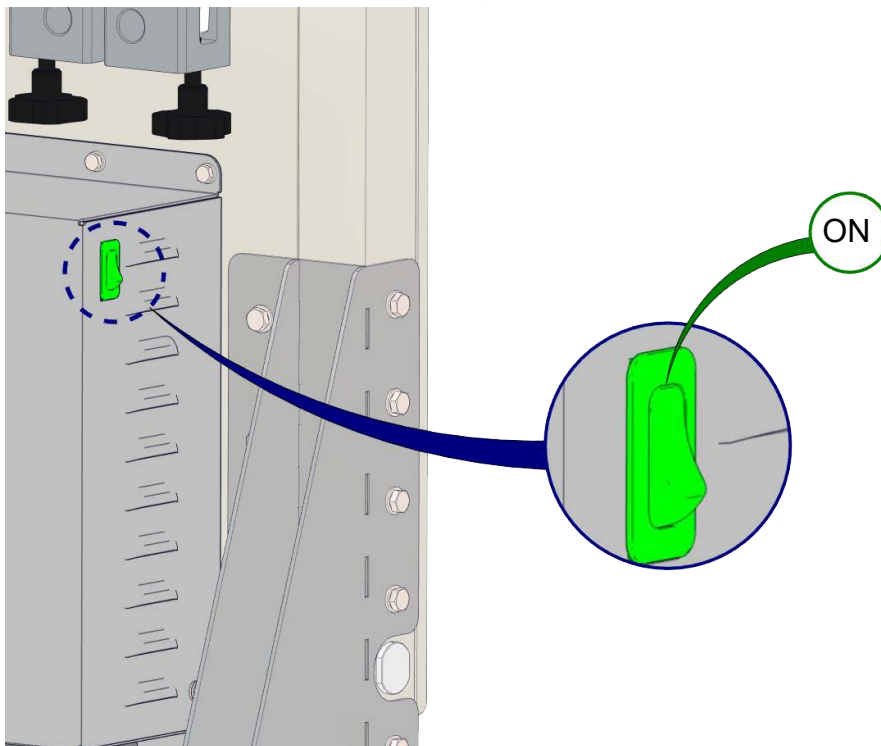

Fig 2.14 Thermal Circuit Breaker
- Make sure thermal circuit breaker on isolation transformer is set to 'on', (switch in up position) (Fig 2.14).
- In the event of a power failure, check thermal circuit breaker on isolation transformer (Fig 2.14), reset if required.